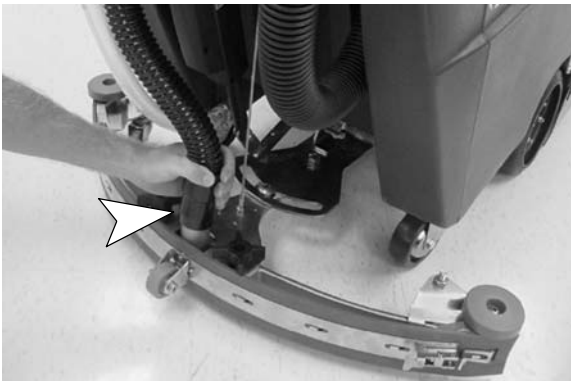

FIG. 5
- Connect vacuum hose from machine to squeegee assembly (Figure 5).